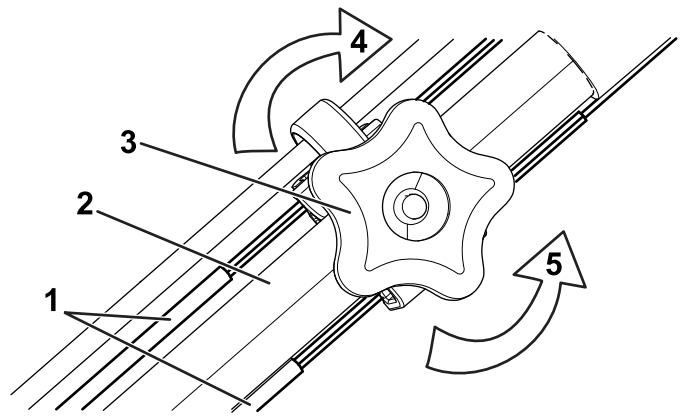

Figure 29
1. Turn the adjustment knob counterclockwise to loosen the cable adjustment (Figure 29).
2. Adjust the tension on the cables (Figure 29) by pulling both of them back or pushing them forward and then holding them in that position, maintaining equal lengths.